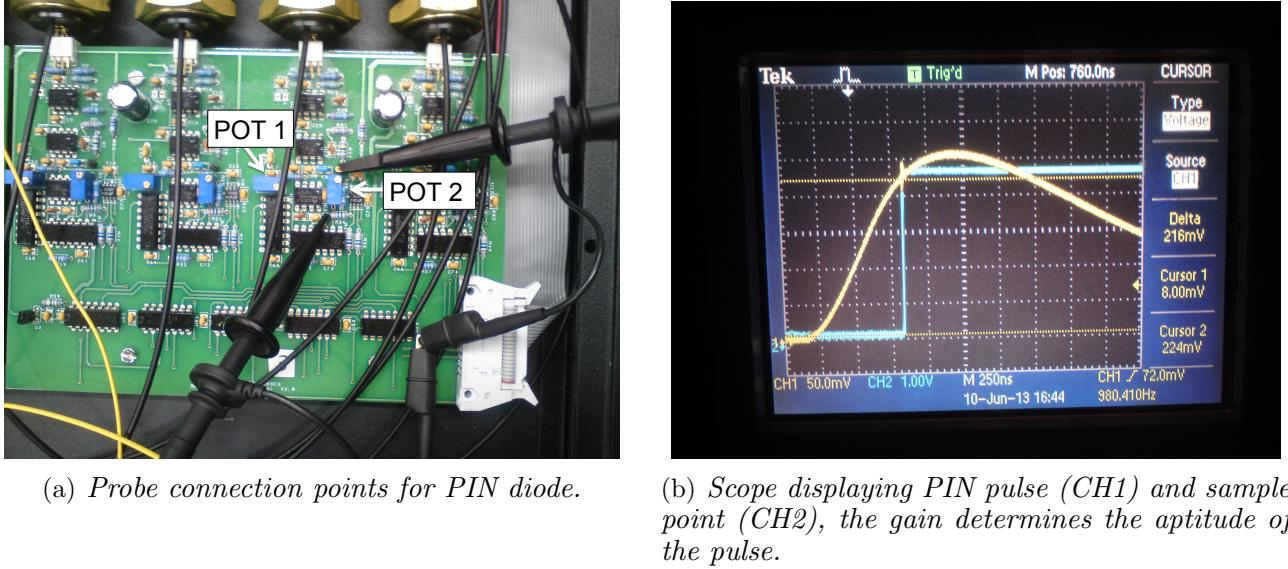

Figure 4: PIN diode probes and pulse shape
The driver characterisation setup is shown in Figure 2. This setup runs the drivers as they will be at site, using a monitoring PMT and oscilloscope to characterise the time profile and amplitude of their LED pulses. The measured amplitude can then be compared with the internal PIN diode's response. The driver box (a) is connected via the optical fibre (c) the PMT (d). The PMT power supply (e) is monitored by the multimeter (f). The oscilloscope (h) is used to measure the rise time, fall time, width and the amplitude of the PMT pulse. The control box (i) for the drivers is powered by the same supply as the driver box (j). The second oscilloscope (k) is used to set up the PIN's amplifier, shown in detail in Figure 4(b). The temperature within the driver box is measured with the temperature monitor (b), the air-conditioning thermostat (g) is used to keep the lab temperature constant. In re-running the measurements at SNOlab only one oscilloscope will be available. This is not a problem as only three channels are required - two for the probes and one for the pmt.
Each PIN diode has two potentiometers, shown in Figure 4(a), that allow the PIN’s gain and sample point to be set. Probes can be connected to the 330Ω resistor and the probe point also shown in Figure 4(a). The gain is set to allow maximal sensitivity to the low light levels
The two scope probes should be set as in Figure 4(a). There is a ground pin in the bottom right hand corner of the picture that the two crocodile clips are attached to. The two probes should then be connected to the 330Ω resistor and the probe point, as also shown in Figure 4(a). We must then identify the two potentiometers associated with this channel. If we again look at Figure 4(a) the potentiometers are the blue rectangular components. Each channel has one potentiometer to control the position at which the PIN diodes response is sampled by the ADC (POT 1), and one to control the gain of the amplifier associated with the PIN diode's electronic response (POT 2).
box: 1-8). Optionally, the user can also pass a -w flag to additionally set the IPW value. This is set to 0 by default and should be run at 0 in the first instance. With the probes attached and the script running, the user should adjust the scope settings to give something similar to Figure 4(b). You're now ready to set-up a channel! To do so, the amplifier's gain (POT 2) should be increased until the response pulse (CH1 in Figure 4(b)) is seen to just saturate. In saturation the peak will flatten off as the amplifier can no longer supply an output voltage proportional to the input. The sample point (POT 1), should then be adjusted until the rising edge of the square pulse intersects the PIN response transient at 75% of it's peak (saturation) value.
- Connect probes and set-up oscilloscope to monitor as in Figure 4.